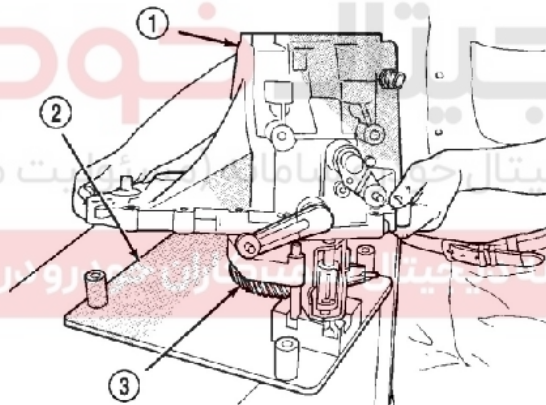
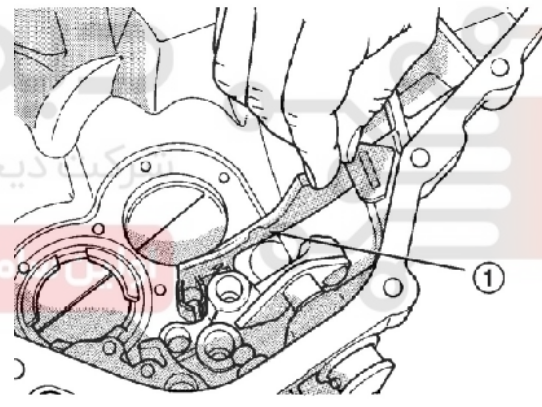

Figure 3-54 Disassembly of transaxle housing
Figure 3-55 Feeding tank
(20) Take down the transaxle from the compression machine.
(21) Pick off the transaxle housing carefully from the input shaft assembly, output shaft assembly and plate jig (Figure 3-54). Take care not to break the feeding tank for end bearing (Figure 3-55).